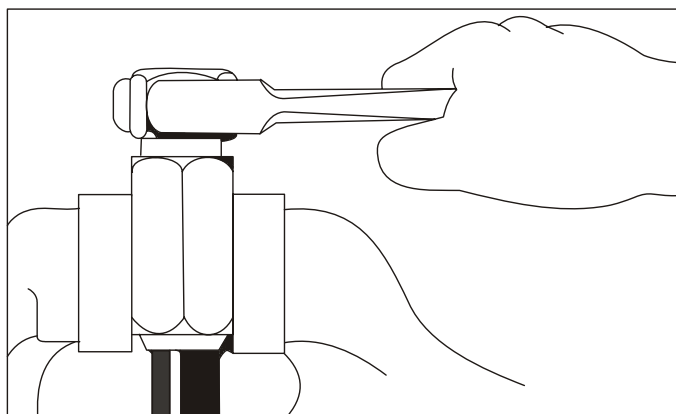

Figure 4 Removing Coupling Insert
- Clamp the ferrule in a vice and screw the insert from the hose in a counter-clockwise direction (see Figure 4).